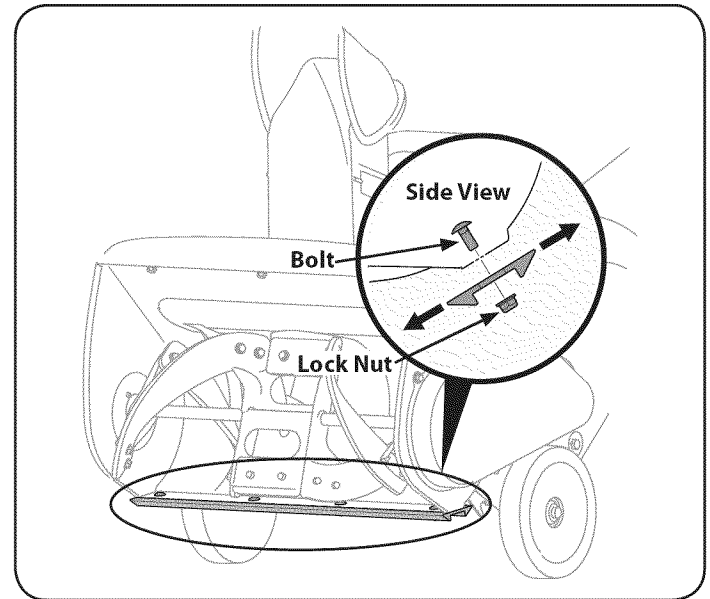

Figure 16
3. Loosen the four lock nuts and bolts which secure the shave plate to the housing. See Figure 16. Move the shave plate to the desired position and retighten the nuts and bolts securely.